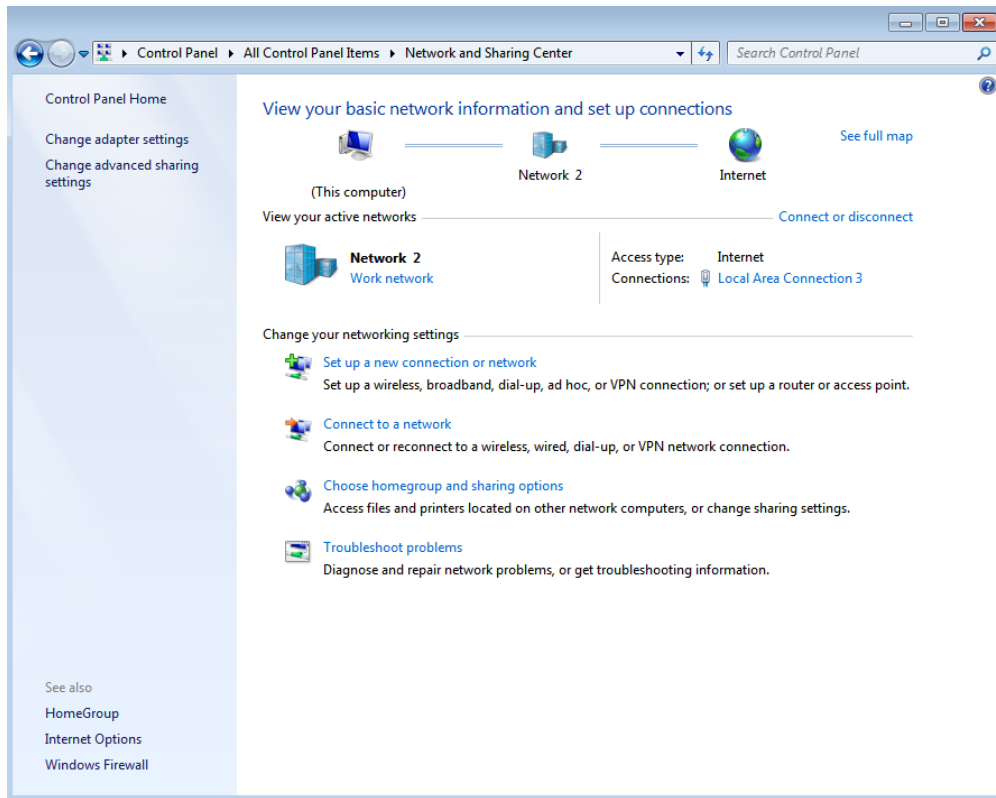

Figure 38: Network and Sharing Center
- a) Click on the folder symbol or press Win-Key + E and click on Network again. Click on "Network and Sharing Center" in the menu bar. This will show Figure 38.